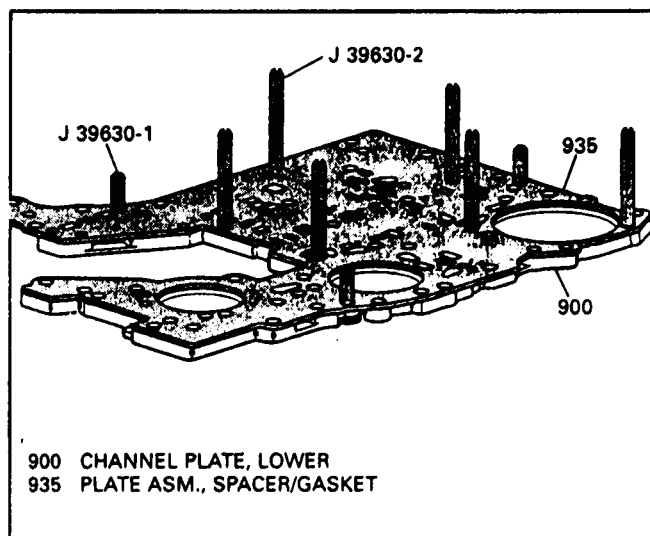

Figure 85
2. Install guide pins J-39630-2 (Total 6) into channel plate, as shown in Figure 85.